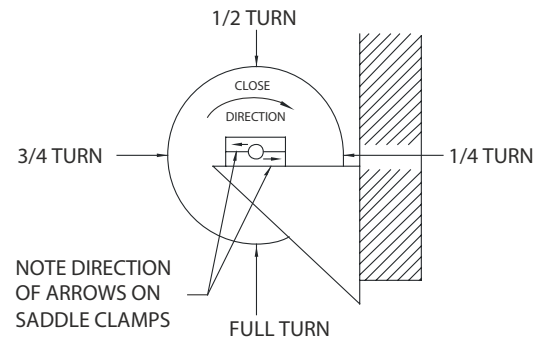

Figure 4
4. Curtain assembly counterbalance springs will have to be wound during the installment procedure. It is essential that the curtain bottom bar be positioned correctly when placing curtain assembly on headplates. A reference point marked on the curtain ring and door shaft is required to neutralize the spring before clamping the door shaft. See Table 3, Page 9, for for the initial turns required to wind counterbalance springs, then locate bottom bar accordingly. (NOTE: Incorrect number of turns will affect door operation. See directions on sheet 7 for adjusting spring tension. EXAMPLE: If the number of initial turns is 1 and ½, locate bottom bar at the ½ turn position (Figure 4). Step 8 will explain the winding procedure.
- A. Starting at the ½ turn position, rotate curtain assembly on door shaft 1 and ½ turns in the "CLOSE" direction (See Figure 4).